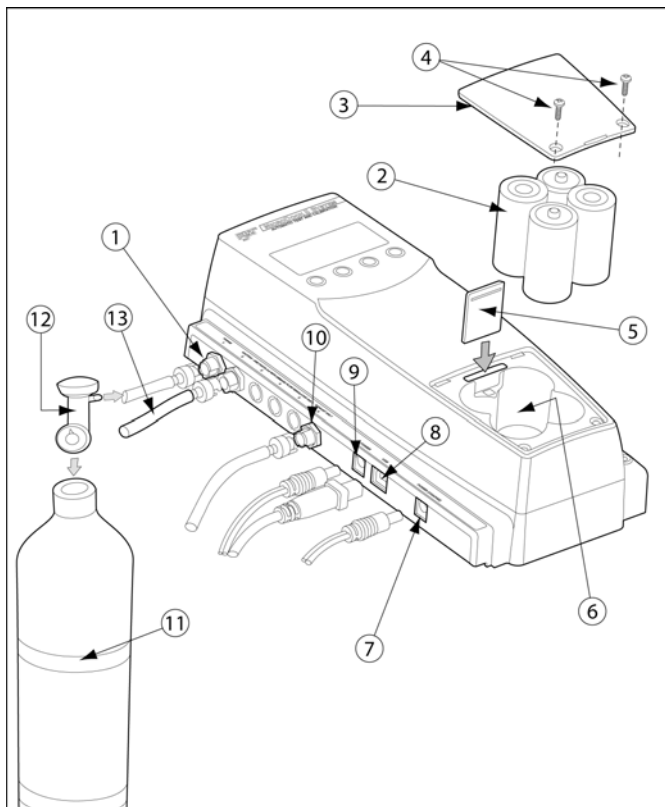

Figure 4. Base Station Connections
- Figure 4. and Table 6. Base Station Connections
To install batteries in the base station, refer to Figure 4, and complete the following: